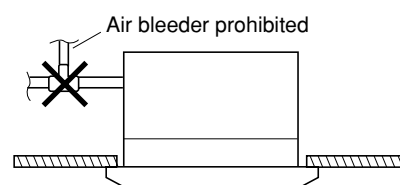

Fig. 3-43
- Do not install an air bleeder as this may cause water to spray from the drain pipe outlet. (Fig. 3-43)